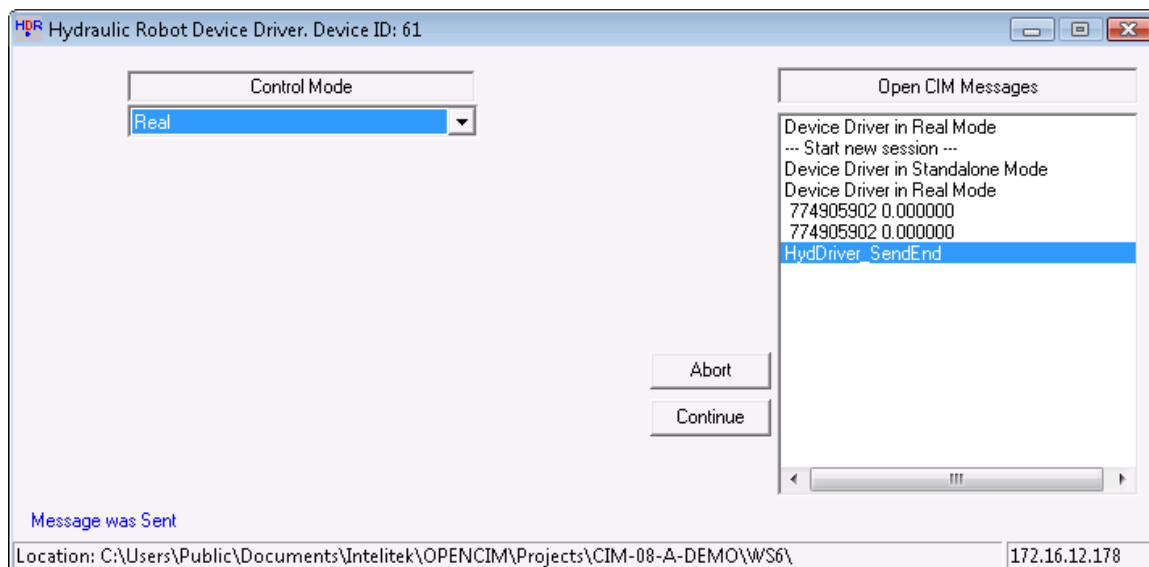

Figure 160: Hydraulic Robot Device Driver
3. From the windows system tray select **Hydraulic Robot Device Driver**. The Hydraulic Robot Device Driver window is displayed, as shown in Figure 160: Hydraulic Robot Device Driver.